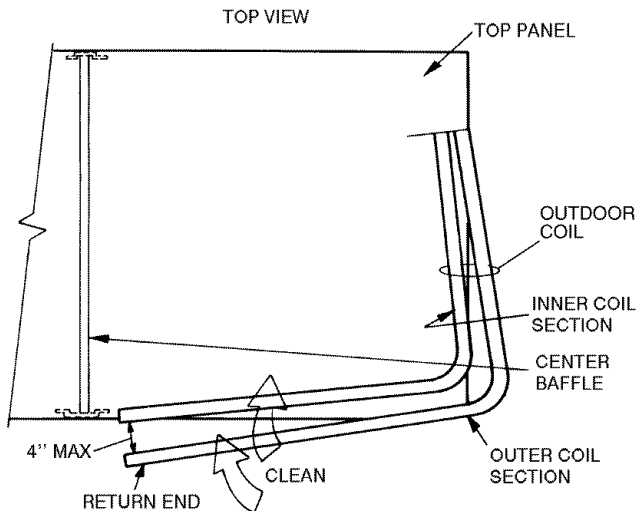

Fig. 45 — Separating Coil Sections
4. Remove the device holding the coil sections together at the return end of the condenser coil. Carefully separate the outer coil section 3 to 4 in. from the inner coil section. See Fig. 45.